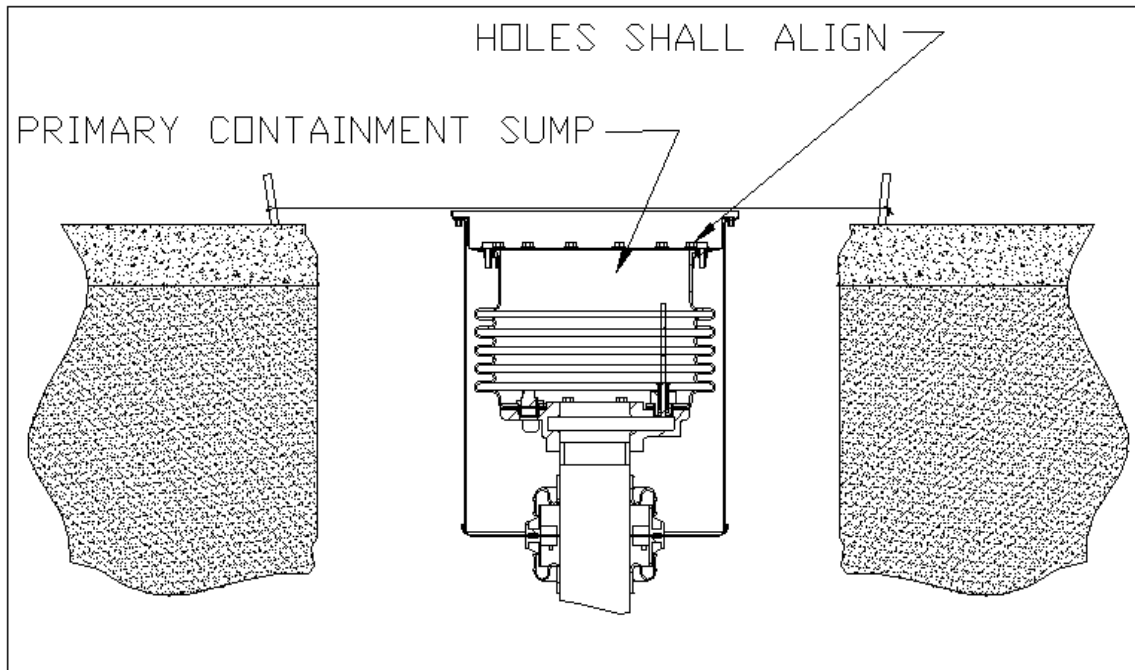

Figure 5
7. Install primary containment by screwing it into the thread of the riser. Note: make sure that an o-ring is under the lip of the stainless steel ring that is bolted to the bellow. If o-ring is missing, consult with supplier. Screw the primary containment tightly until the holes on the primary containment is aligned with the holes of the secondary containment. The primary containment can be screwed using a 71cd-2 wrench available from supplier. (See Figure 5)